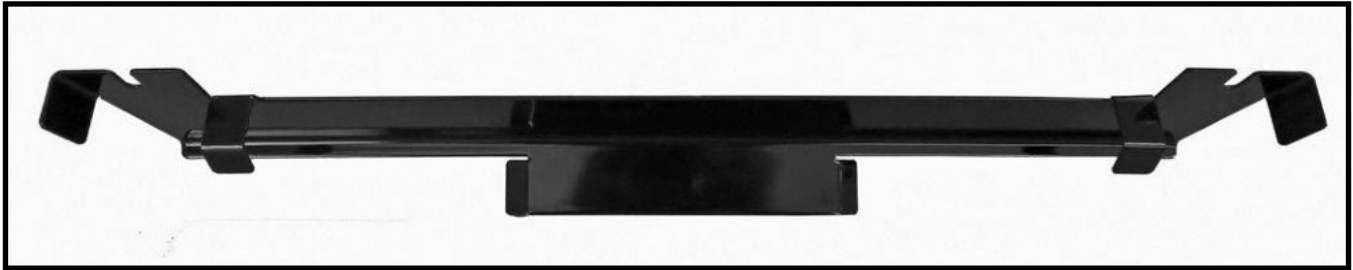
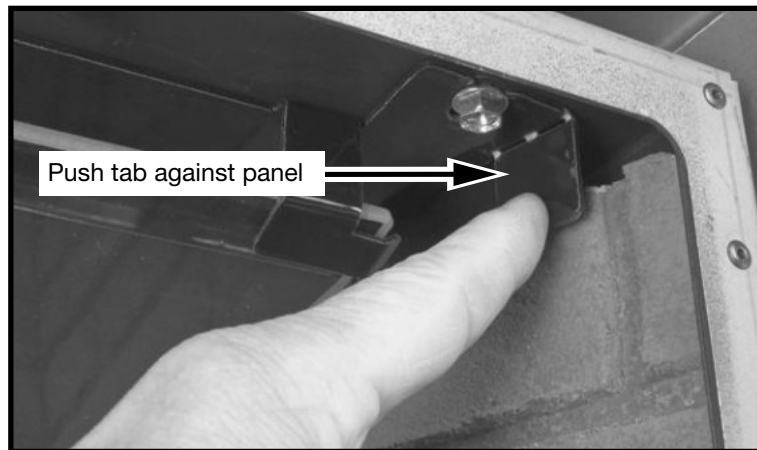

Figure 22: Baffle and panel bracket.
Figure 23: Perforated panel tab.
The baffle and panel support bracket (Figure 22) retains the side panels, supports the front end of the ceramic glass baffle, and has a shield which directs the light from the ceiling of the firebox (available on i30s models only) down onto the log set (model dependent). It is held in place by two bolts. The bracket and its bolts should be removed before installing the rear and side panels so that the bolts protruding from the ceiling do not damage the panels.
Note: The baffle and panel bracket (Figure 22) has a perforated tab at each end (Figure 23). This allows the tabs to be easily bent against the decorative side wall panels to hold them in place if necessary. Use only enough force to hold the panel in place and not so much as to damage the panel.
3. The rear panel is stabilized once the side panels are in place. Stabilize the side panels by installing the glass baffle and panel bracket (Figure 22) and its bolts.